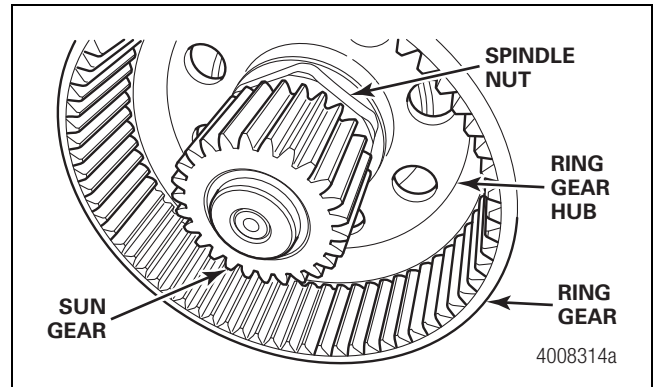

Figure 13.8
11. Install the sun gear onto the axle shaft. Figure 13.8.